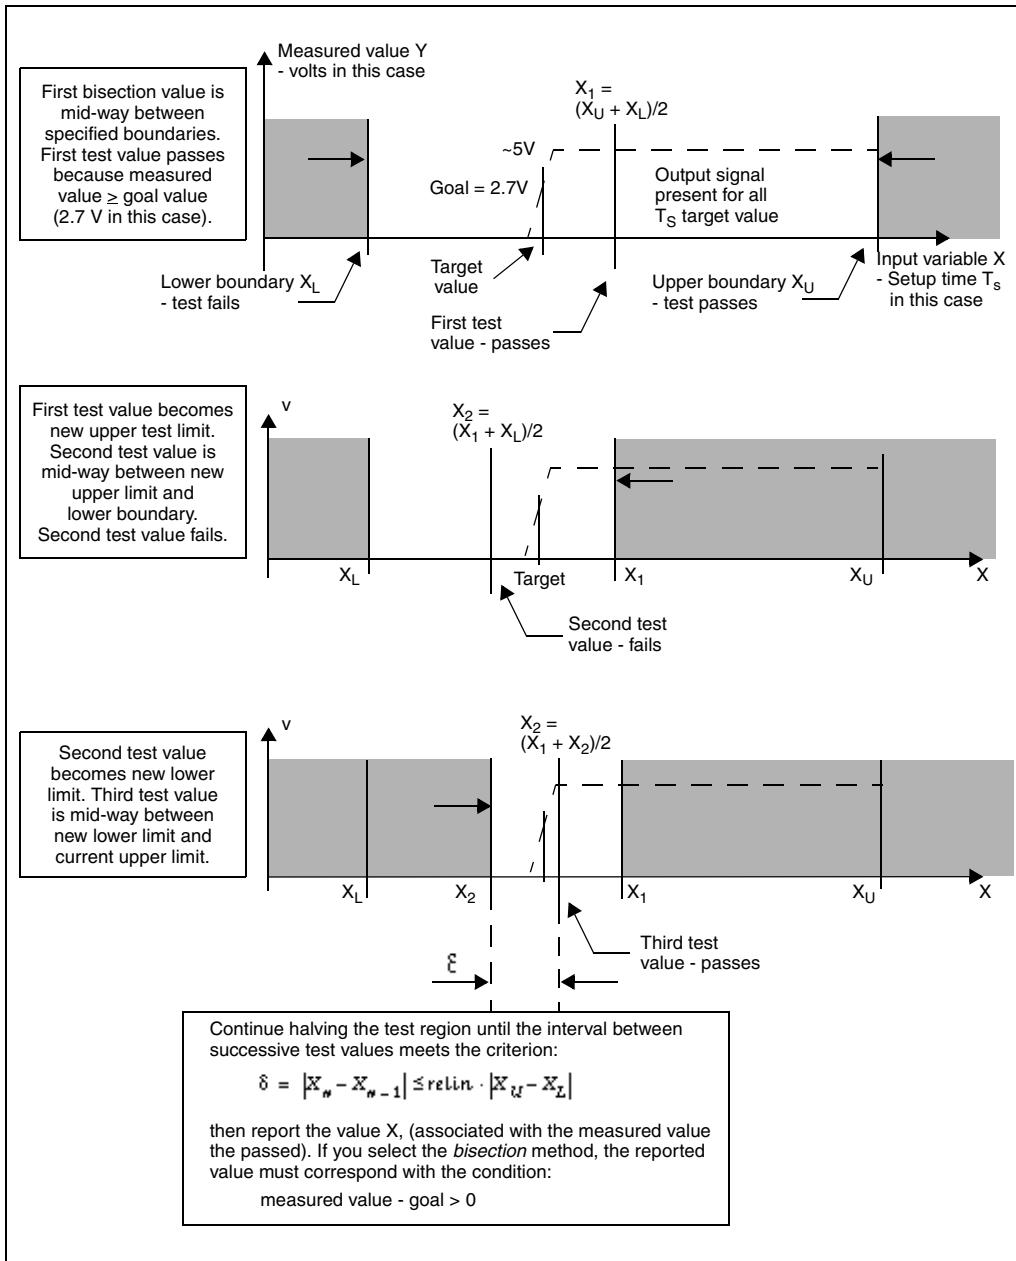
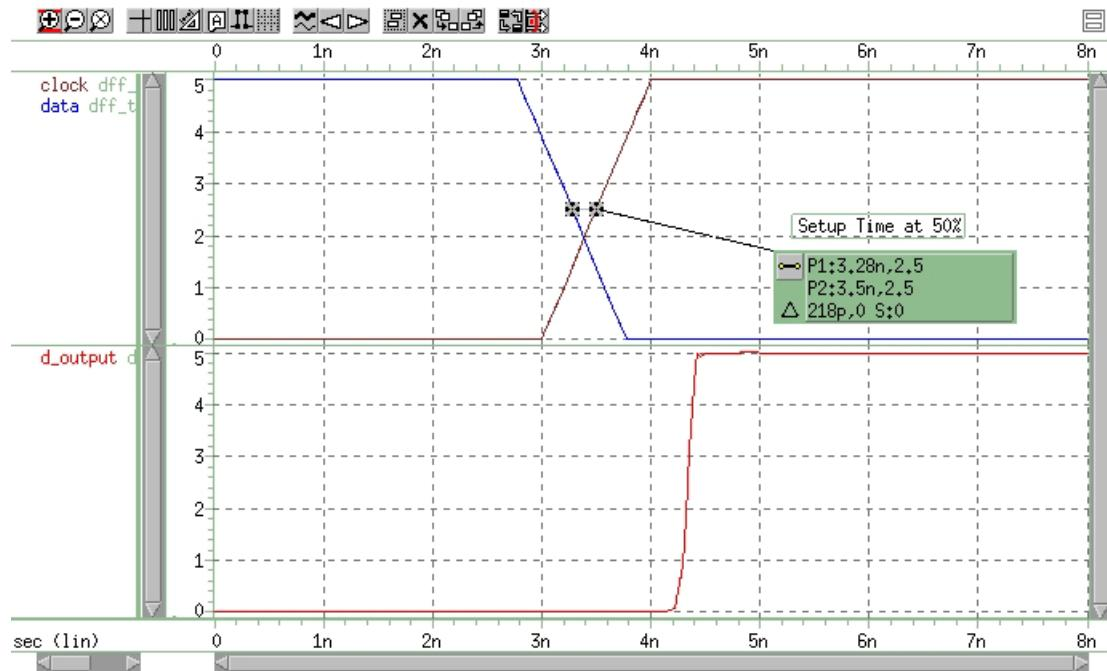

Figure 179 Bisection Example for Three Iterations
Figure 180 Transition at Minimum Setup Time
5. To start the binary search you specify the lower and upper boundaries. The program tests the point midway between the lower and upper boundaries (see Figure 179 on page 904).
Figure 179 on page 904 and Figure 180 on page 905 show the results of this demo. HSPICE does not directly optimize the setup time, but extracts it from its relationship with the `DelayTime` parameter (the time before the data signal), which is the parameter to optimize.
The upper plot in Figure 180 on page 905 shows the relationship between the clock and the data pulses that determine the setup time. The bottom plot is the output transition.